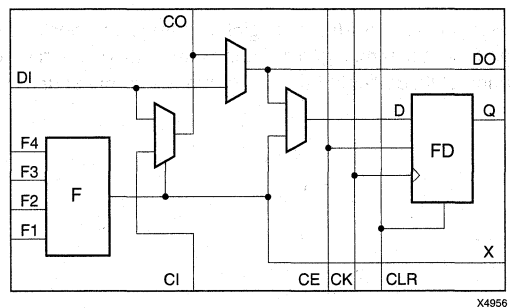

Figure 2: XC5200 Logic Cell (Four LCs per CLB)
The basic logic element in each VersaBlock structure is the Logic Cell, shown in Figure 2. Each LC contains a 4-input function generator (F), a storage device (FD), and control logic. There are five independent inputs and three outputs to each LC. The independence of the inputs and outputs allows the software to maximize the resource utilization within each LC. Each Logic Cell also contains a direct feedthrough path that does not sacrifice the use of either the function generator or the register; this feature is a first for FPGAs. The storage device is configurable as either a D flip-flop or a latch. The control logic consists of carry logic for fast implementation of arithmetic functions, which can also be configured as a cascade chain allowing decode of very wide input functions.